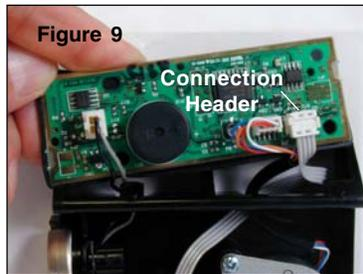

Figure 9
6. Insert the keyed Picoflex connector on the end of the ribbon cable into the connection header on the keypad. (Figure 9)
12. Mount the front cover to the keypad/base assembly using the round mounting holes on the cover and the three #6-32 mounting screws. (Torque 14-16 lbs., 1.6-1.8 N-M) (Figure 9)